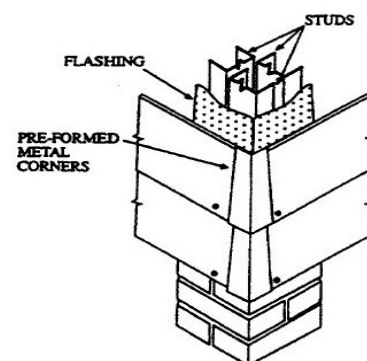

Figure 2: Fixing External Corners
4. Internal corners of planks are normally butted to a timber stop. Preformed metal external corners are normally filled with a recommended adhesive and pushed in position. See Figure 2.